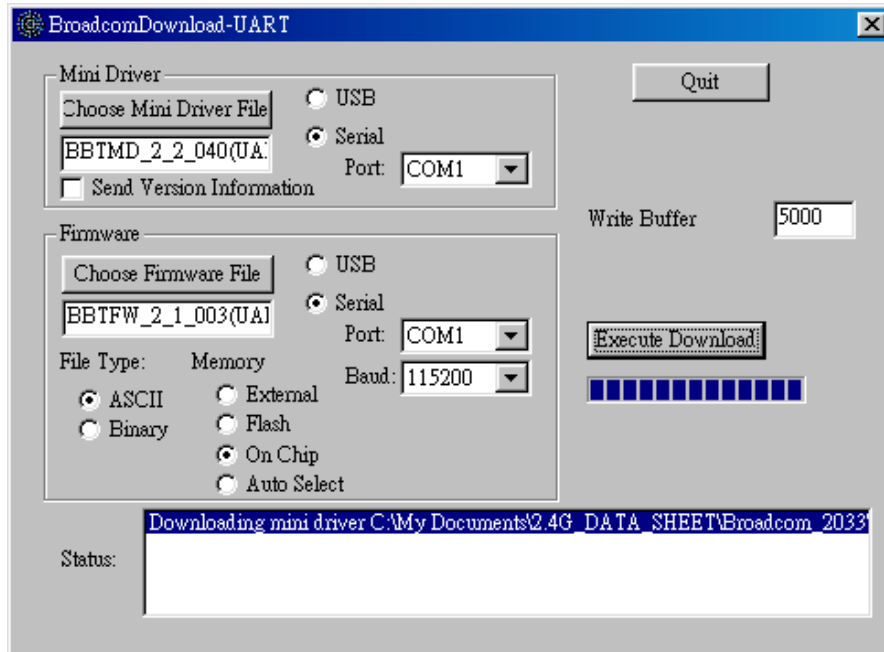

Figure 5: Executing firmware download procedure
- Click on the “Execute Download” button. Status messages should appear in “Status” window as the download procedure progress. (as Figure 5)